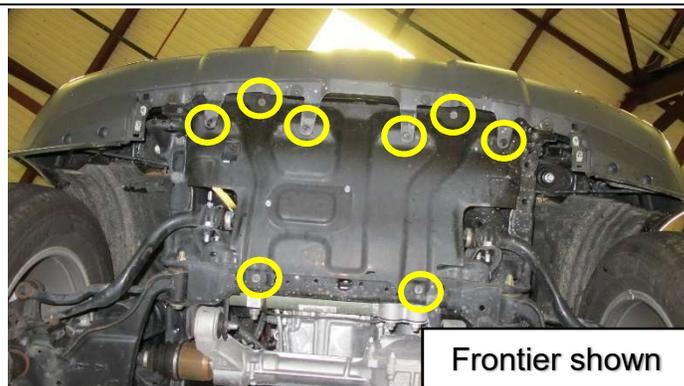

Figure 4
- **(Frontier)** Using 10 mm socket, remove the (8) bolts holding the Front Under Cover (Figure 4)